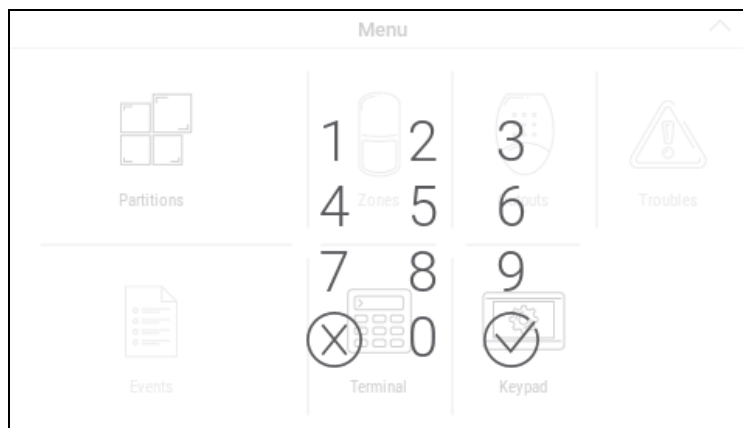

Fig. 13. On-screen keypad.
- Swipe the screen up. The on-screen keypad will be displayed (Fig. 13).